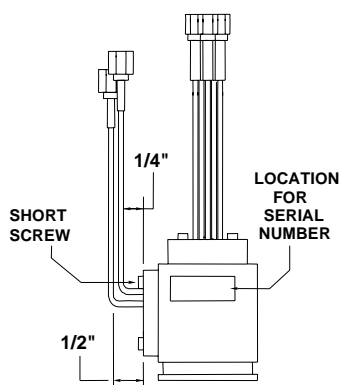

Figure 4-43: Manifold Tube
38.	If necessary, bend the top two manifold (23) tubes straight up $\frac{1}{4}$ " from base of tube. Refer to Figure 4-43. Bend lower middle tube straight up $\frac{1}{2}$ " from manifold tube base.
39.	Reassemble valve cap (3) using the procedure provided earlier in this section.